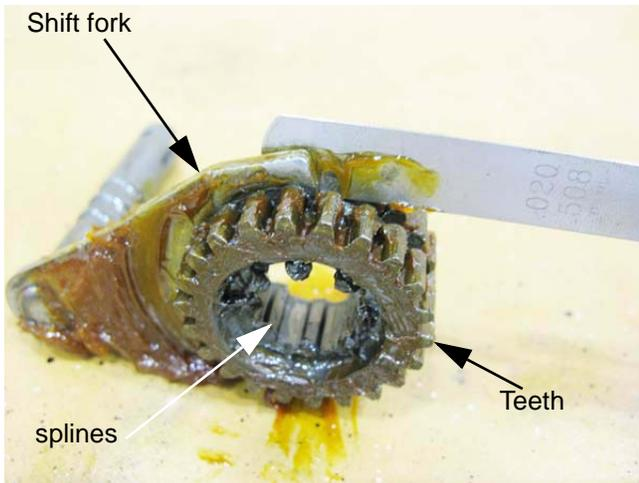

Figure 6.96
- 13g. Check shift collar teeth and splines for wear or damage. See Figure 6.96.